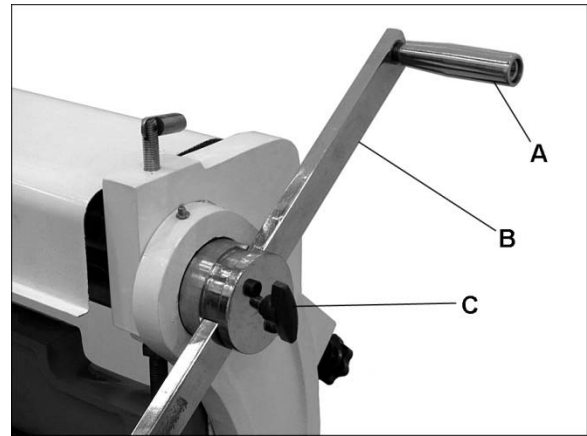

Figure 3
7. Remove one handle (A, Figure 3) from each operating handle assembly, using 8mm hex key.
8. Loosen lock bolt (C, Figure 3).
9. Slide bar (B) into hub and tighten lock bolt (C) to secure.
10. Re-install handle (A).